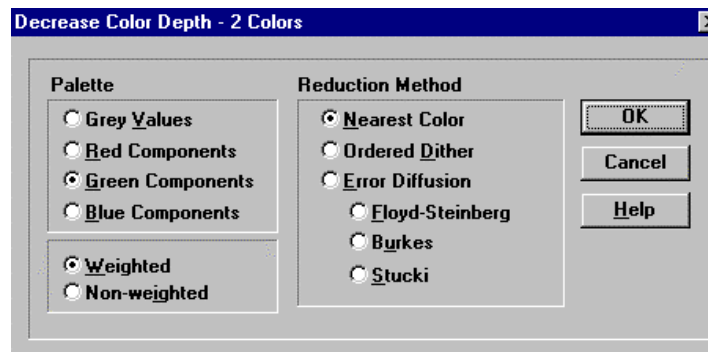

Figure 3
8. Now you need to make it black and white. Click on the word **C**olors from the menu bar along the top of the window. Then click on **D**ecrease **C**olor **D**epth, then **2** **C**olors. Click on **O**K. Under the word Palette, select **G**reen **C**omponents if the logo was copied in the layout program. Select **G**rey **V**alues if the logo was copied in the regular engraver program. Below this section, **W**eighted should be selected. Under the word Reduction Method, **N**earest **C**olor should be selected. If they are not already selected, click on the circle to the left of each. Then click on **O**K. (See Figure 3)